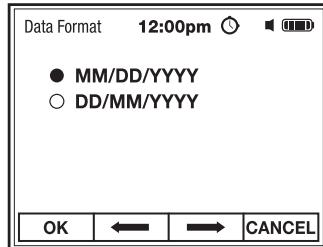

Fig. 26
- Use the **F2** ⇅ and **F3** ⇆ soft keys to select Month/Day/Year or Day/Month/Year (Fig. 26).
- Press the **F1 OK** soft key to save setting and return to Date/Time Menu (Fig. 26).